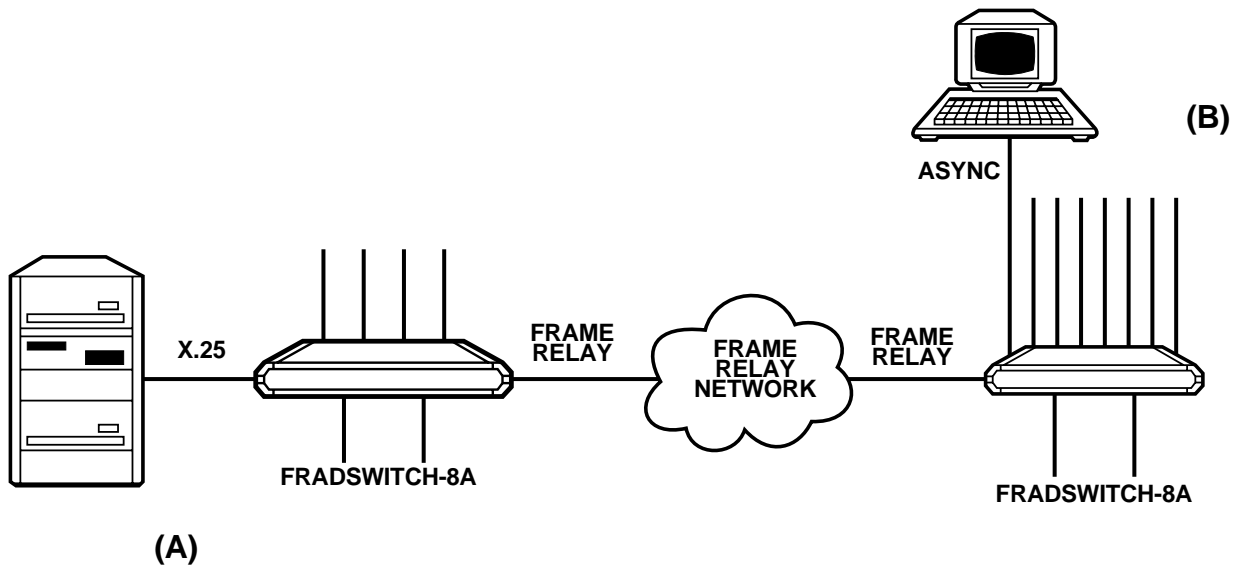
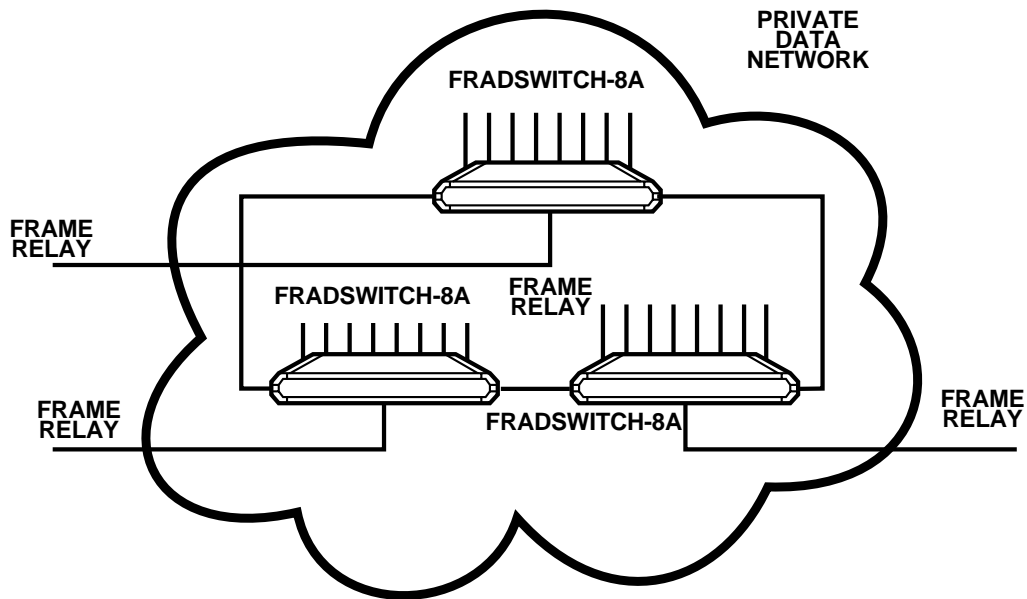

Figure 2-4. (a) Fradswitch-8A operating as a switch at the user side: Conversion of Frame Relay to X.25.
Figure 2-5. Fradswitch-8A serving as a backbone for Frame Relay private data network.
- Running asynchronous data in X.25 packets over Frame Relay. (See **Figure 2-4, part a**.)
- Running asynchronous data directly over Frame Relay (SLIP protocol over Frame Relay). (See **Figure 2-4, part b**.)
(See **Figure 2-5**.)
When a link is configured for Frame Relay, packets are processed as follows. If the Fradswitch is located at the user side (acting as an end device), the received Frame Relay packets are converted into async or X.25 format and are routed to the appropriate port. (See **Figure 2-4**.) If the Fradswitch is located at the network side, the received Frame Relay packets are routed to another Frame Relay link. (See **Figure 2-5**.)